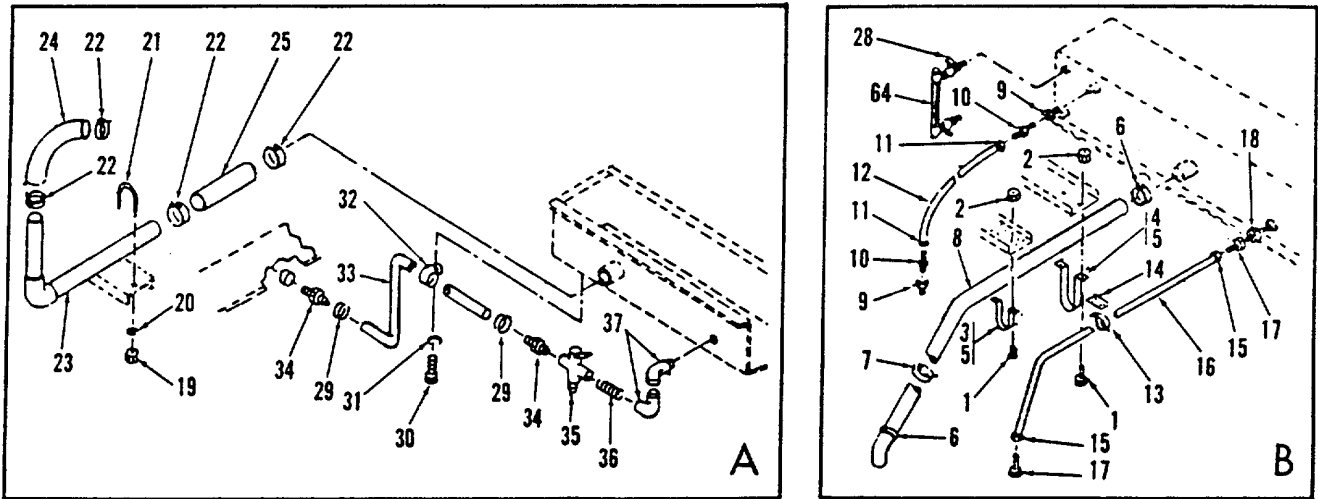

Figure 7-3. Radiator Assembly, Code B, Exploded View (Sheet 2 of 2)
(3) Turn off all power and tag and disconnect electrical leads to fan motor (76).
(4) Remove fan guard (68, figure 7-3) by removing hardware (69, 70, and 71).
(5) With hoist attached by fan motor (76) taut, remove bolts, nuts and washers (47 thru 50) from top portion of support leg (72).
(6) Carefully slide fan motor and fan blade out of unit.
(1) If generator set has a housing kit installed, remove panels and shutter assembly in accordance with Chapter 15, (see figure 7-3).
(2) Drain coolant from radiator, remove clamps (22, 29, 32, 6, 7 and 13) and disconnect hoses (25, 33, 12, 8 and 16).
(11) Remove two support tubes (41) by removing screws (38), washers (39) and nuts(40).
(12) Remove fan cowl (65) by removing screws (42), washers (43) and nuts (44). Brackets (45 and 78) will also be removed as they are secured with the same hardware.
(13) Remove screws (47), washers (48 and 49) and nuts (50) that secure radiator to skid base.
LEGEND FOR FIGURE 7-3
7-9. MOTOR REPLACEMENT, CODE B. Remove and replace fan motor, referring to Figure 7-3 as follows: